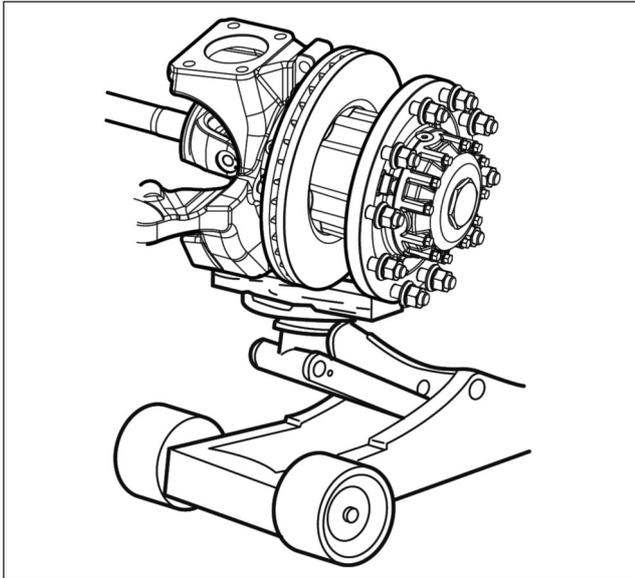

Fig. 4.6
14. Remove the wheel end and front axle shaft from the axle housing using the appropriate lifting device.- Fig. 4.6